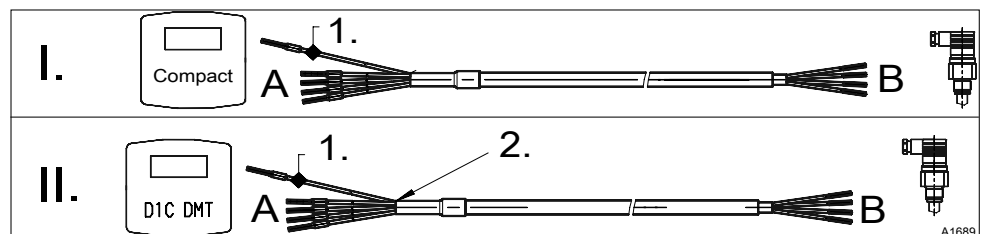

Fig. 2: Connection of the measuring line
red on Compact controller:	Shielding (1) is connected on the ProMinent Compact controller, I A in Fig. 2
red on D1Ca, DMTa	Shielding (1) is cut off at (2) and is not connected on the D1Ca or DMTa, II A in Fig. 2
## Electrical connection, shielded measuring lines on sensors with DIN 4-pin plug in Fig. 2 I B, II B